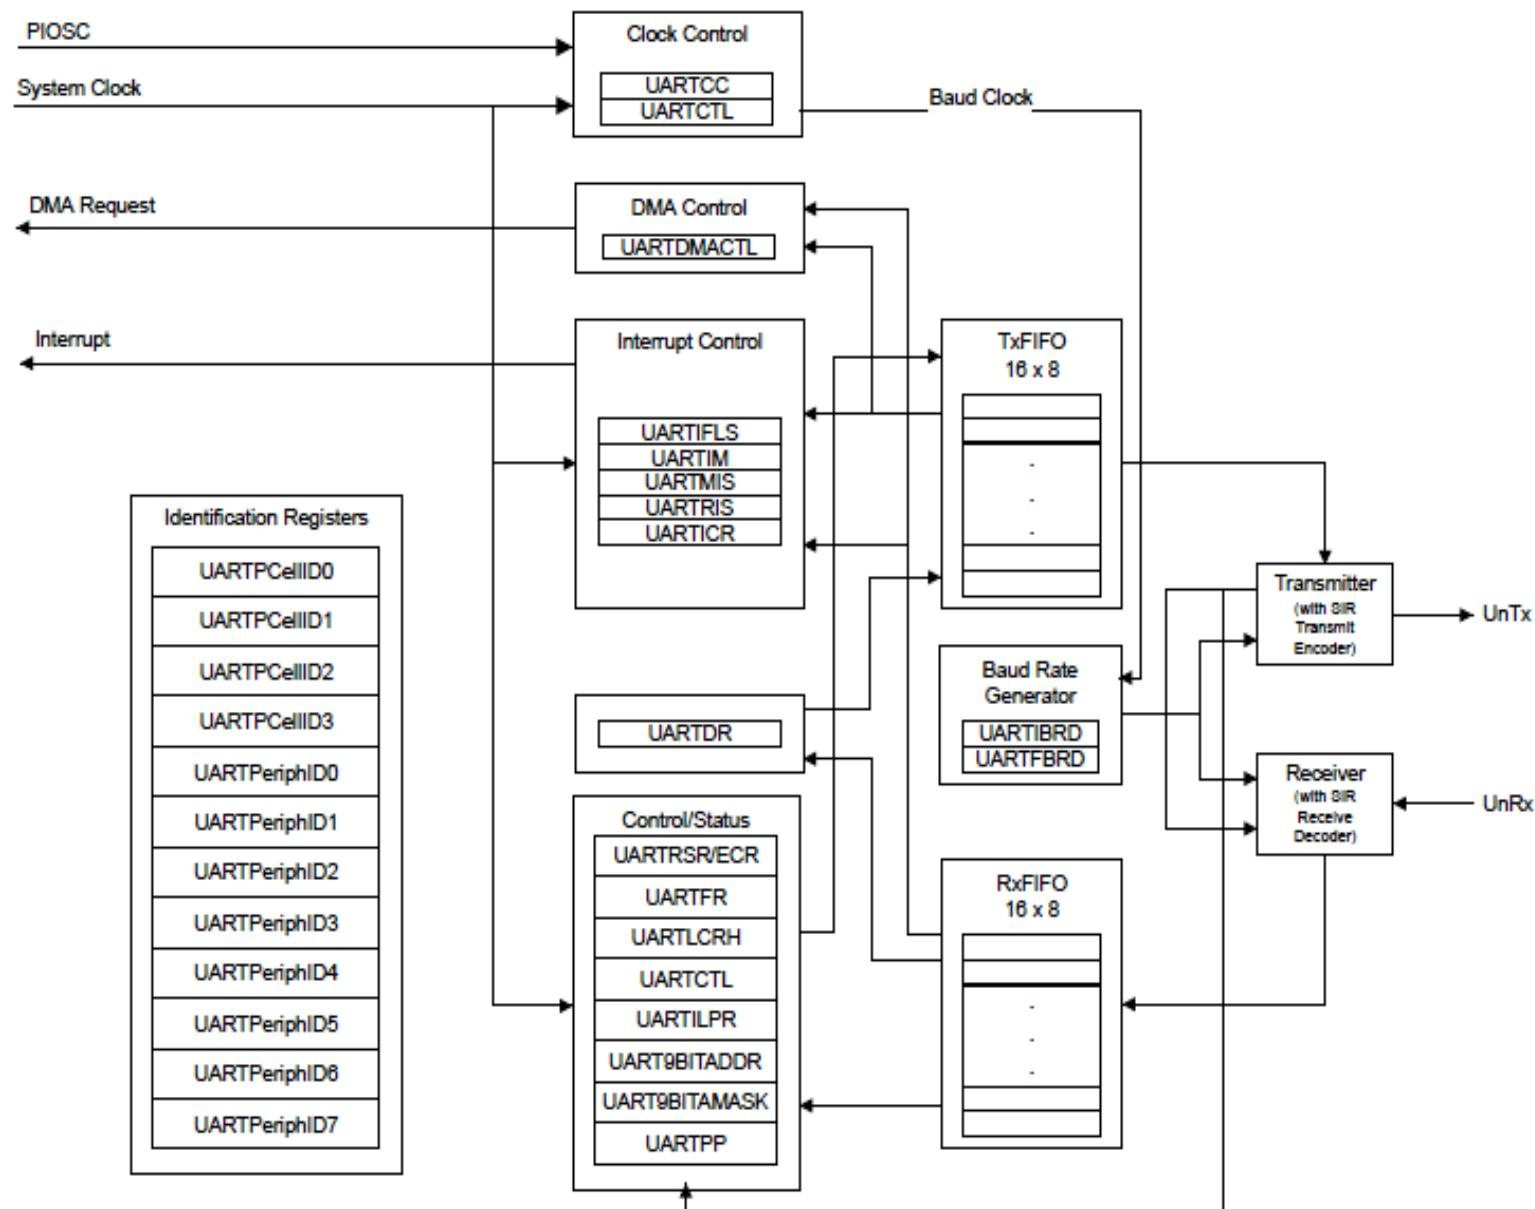

Figure 8.62 The functional block diagram for one UART module.
- The functional block diagram for one UART module is shown in Figure 8.62 (next slide).